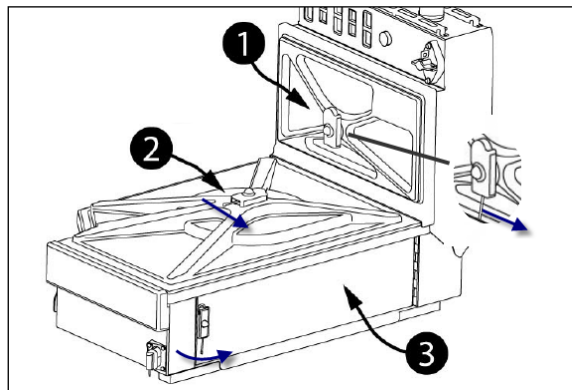
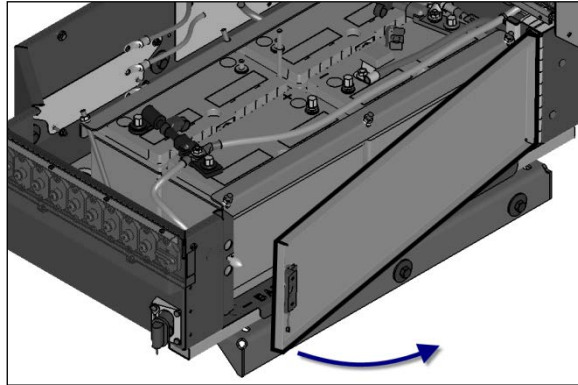

Figure 12: BATTERY PROTECTIVE COVERS
Figure 13 LATERAL ACCESS PANEL
- 3.2 Remove the battery compartment protective covers by pulling the rod on the spring latch to release and lift cover. Starting with (1) then (2) (Figure 12).
- 3.3 Lateral access panel (3) is hinged. Release it by pulling on the spring rod and swing open (Figure 12 & Figure 13).